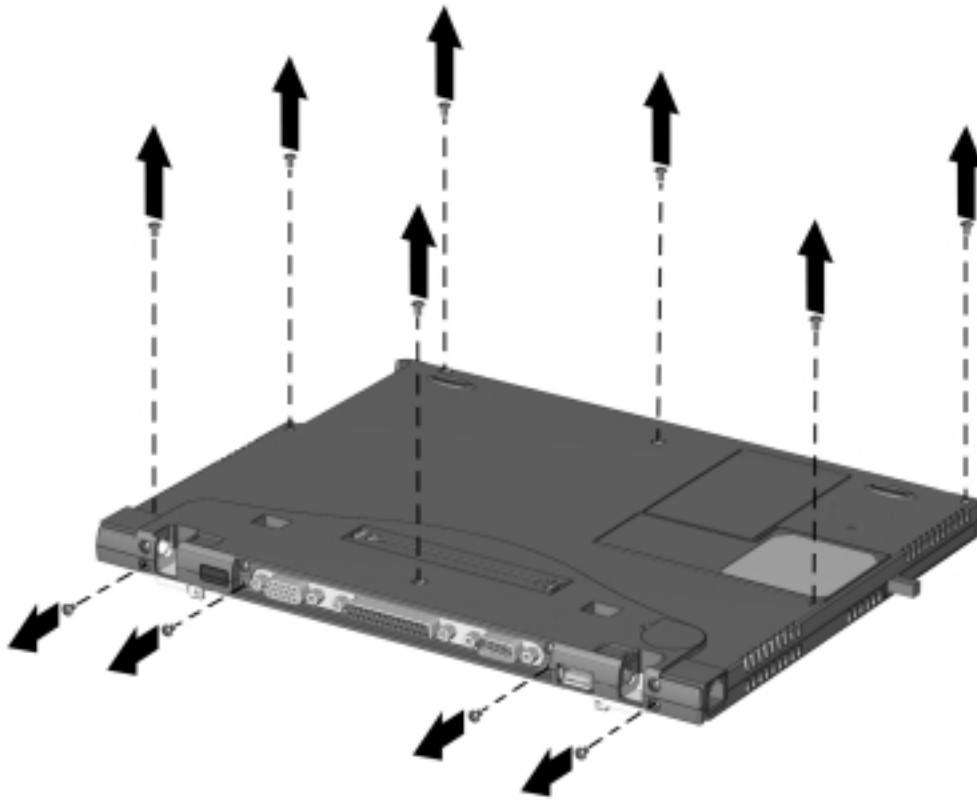

Figure 5-21. Removing the Top Cover Screws
6. Remove the seven screws from the bottom of the computer (Figure 5-21).